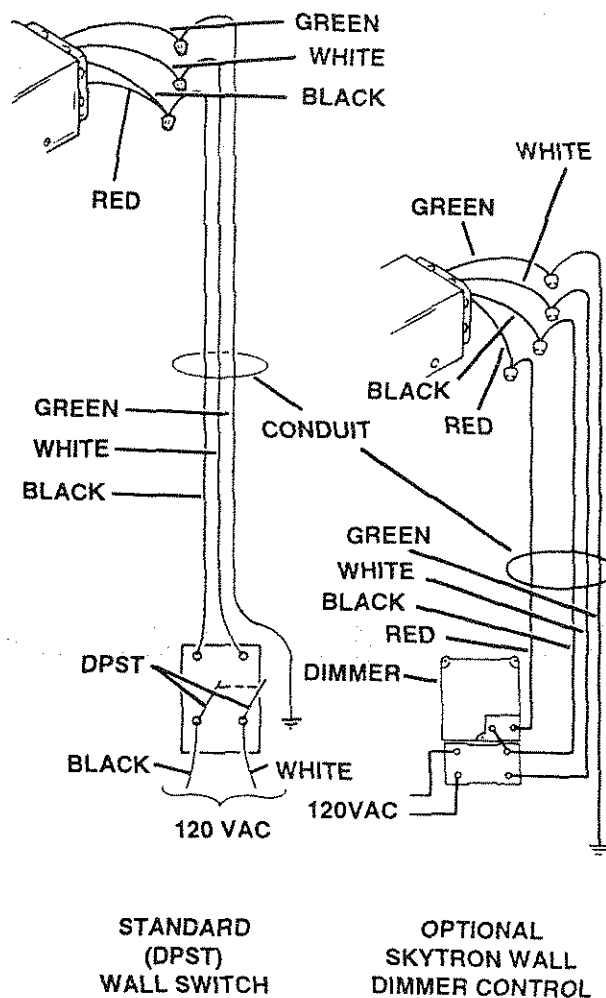

Figure 5. Control Box to Wall Switch Wiring
9. Observe wire color code and connect wires from wall switch to control box using wire nuts. See figure 5.